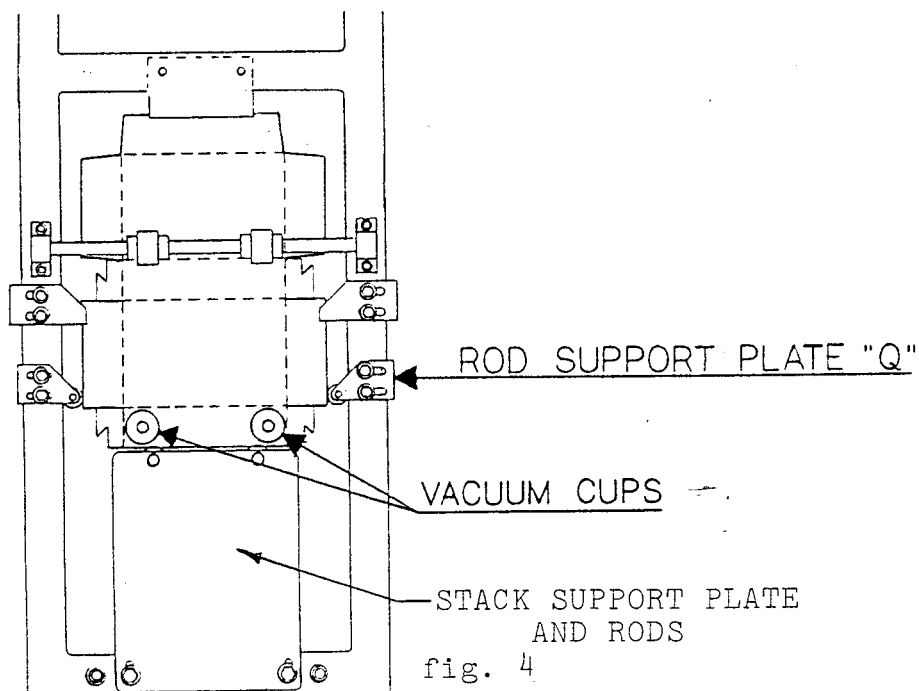

fig. 4
7. With a carton on the forming frame, bring the vacuum cups to just touch the carton, mark the position of the cups on the carton. (The cups should be positioned as low as possible on the carton as shown on Fig.4) Place the carton in the hopper frame, position the stack support rods and side guide rods to place the carton correctly on the cup marks as shown in Fig.4